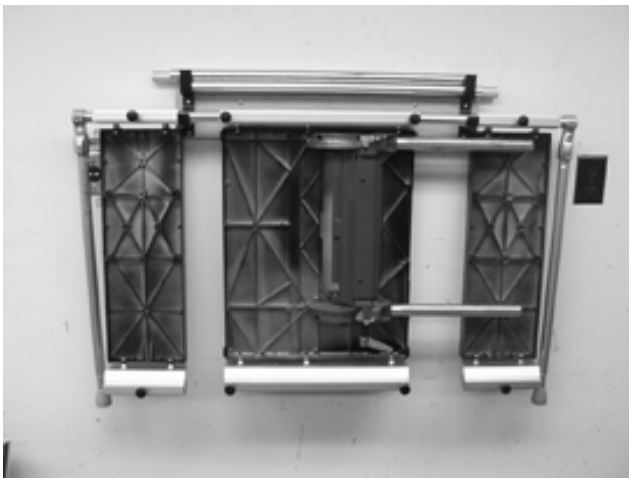

Fig. 1
2. Determine the appropriate height for mounting the Wall Bracket board to the wall. This is your personal preference, however, remember that the Mark V main table will be hung on the Wall Brackets, so you don't want the mounting height too high. Shoulder height is good for most people. See Fig. 1 as an example.
1. Store extension table tubes in the top section of the Wall Brackets. The Mark V main table is stored in the center and the extension tables and telescoping tubes are stored on either end of the long Wall Bracket Tube (2). Be sure to fold the Mark V main table legs flat against the other table. See Fig. 1.